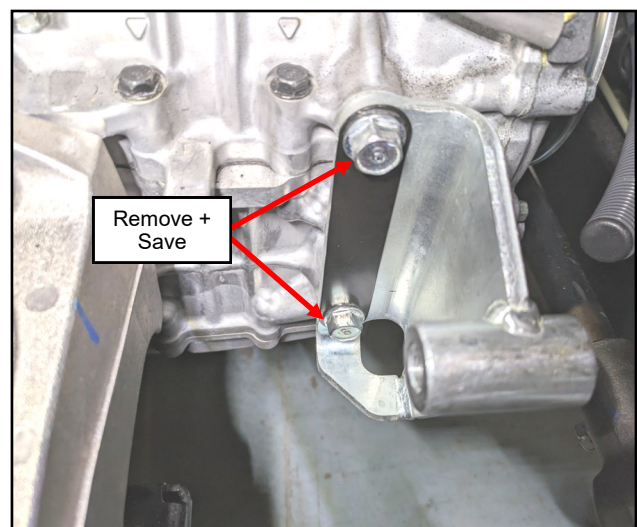

Fig. 2.17 (Remove Lower Alternator Bracket)
2.17 Remove lower alternator bracket per fig. 2.17. Save the mounting screws for reuse.